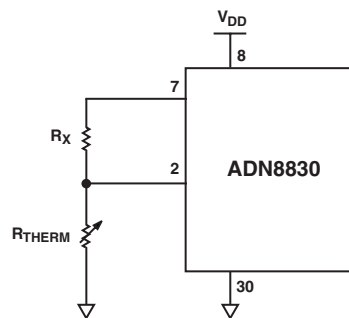

Figure 2. Connecting a Thermistor to the ADN8830
For this application, the resistance is measured using a voltage divider. The thermistor is connected between THERMIN and AGND, Pins 7 and 30, respectively. Another resistor (RX) is connected between VREF and THERMIN, Pins 7 and 2, creating a voltage divider for the VREF voltage. Figure 2 shows the schematic for this configuration.
It is important that the full scale voltage input to the DAC is tied to the ADN8830 reference voltage as shown in Figure 2. This eliminates errors from slight variances of  $V_{REF}$  from different ADN8830 devices.